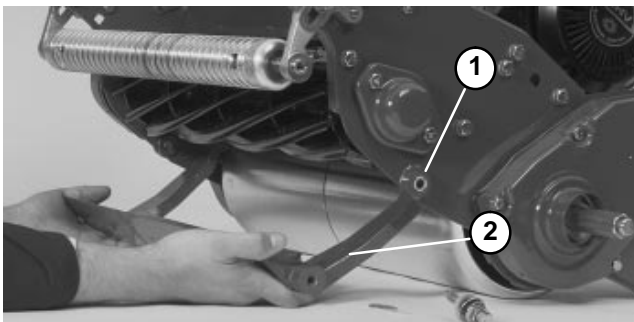

Figure 26
3. Install new nylon bushings into both sides of the frame (Fig. 26).